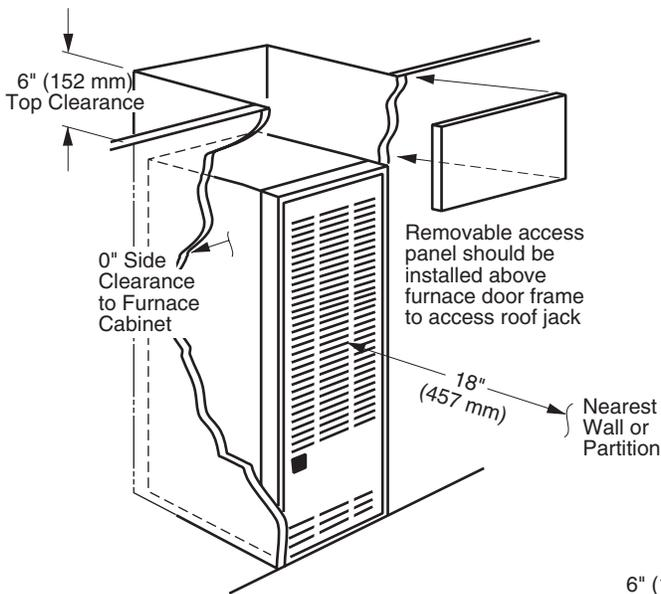
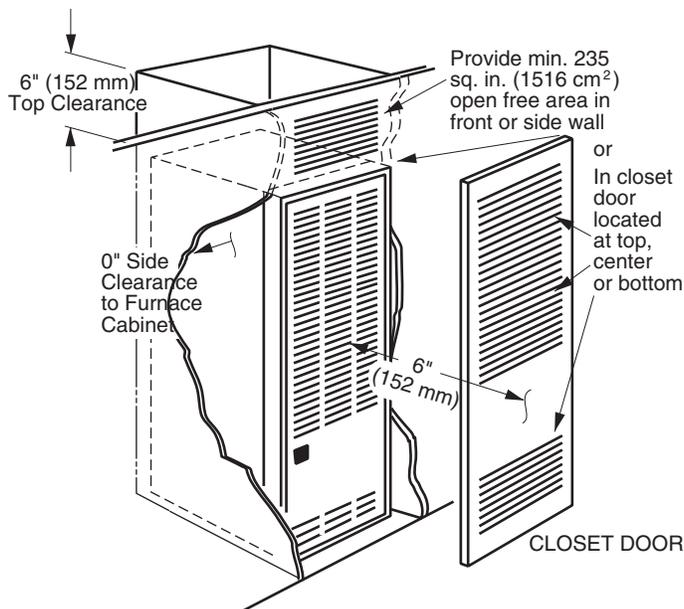
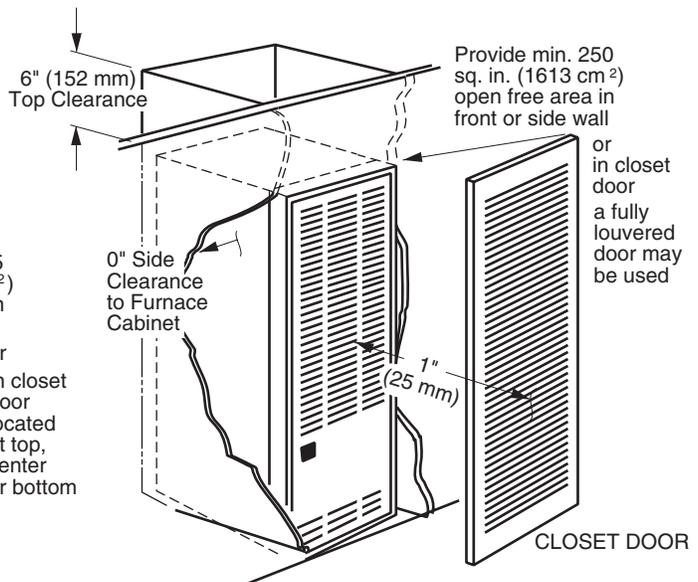

Figure 1. Alcove Installation
Figure 2. Closet Installation
Figure 3. Special 1" Clearance
This heating appliance must be installed with clearances not less than the minimums listed in Table 1, \(page 6\). This furnace must be installed with ample clearance for easy access to the air filter, blower assembly, burner assembly, controls, and vent connections. See Figure 1, Figure 2, and Figure 3.
- The dimensions of the room or alcove must be able to accommodate the overall size of the furnace and the installation clearances listed in Table 1, \(page 9\) and Figure 1 \(page 9\)